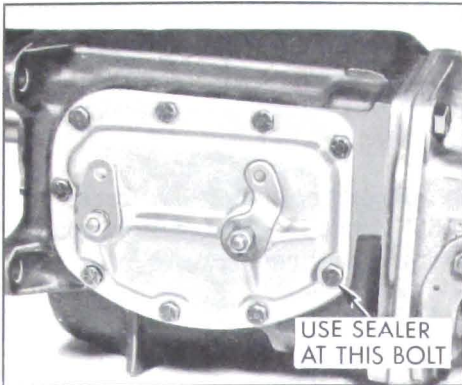

Figure 4-17—Transmission Side Cover Assembly
3. With transmission in neutral and shifter forks and levers in place, lower side cover into place. Install attaching bolts, using sealer and lower right bolt (see Figure 4-17), and tighten evenly.